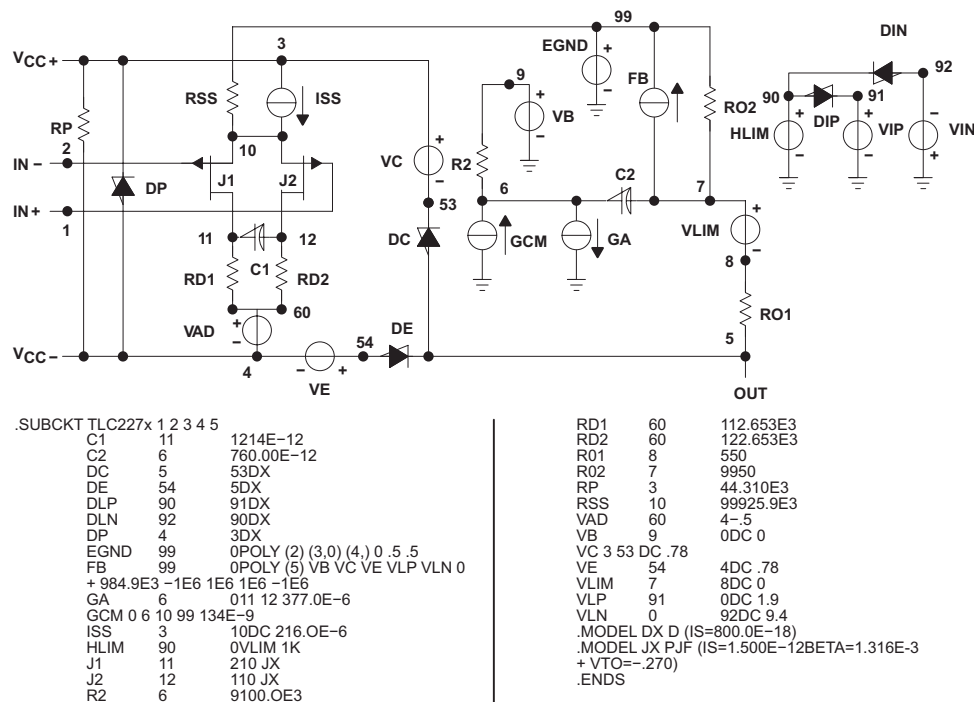

Figure 53. Boyle Macromodel and Subcircuit
Macromodel information provided was derived using MicroSim Parts™, the model generation software used with MicroSim PSpice™. The Boyle macromodel (1) and subcircuit in Figure 53 were generated using the TLC2274AM-MIL typical electrical and operating characteristics at TA = 25°C. Using this information, output simulations of the following key parameters can be generated to a tolerance of 20% (in most cases):